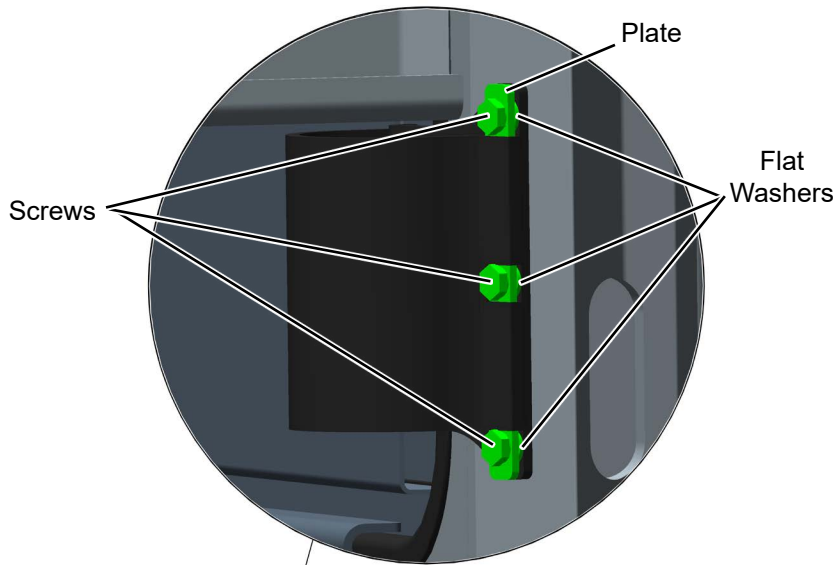

Figure 7
20. Reinstall door limiter strap, screws, plate and flat washers inside cab. See Figure 7. Apply Loctite® #242 to mounting screws and final tighten to 75 in. lbs.